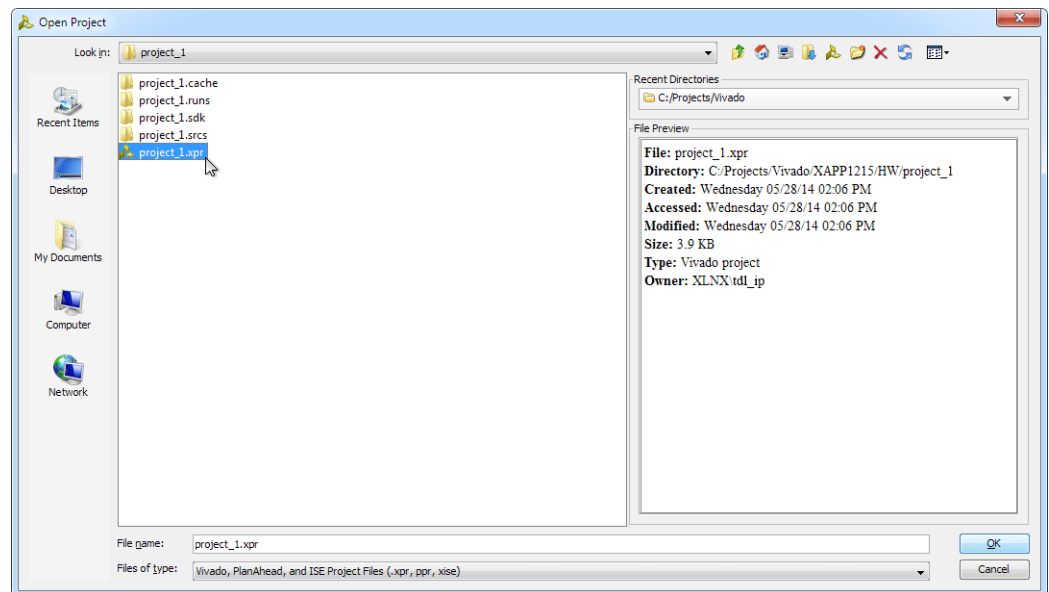

Figure 3: Open Project
4. Select `<unzip dir>/XAPP1215/HW/project_1/project_1.xpr` and click **OK** (Figure 3).